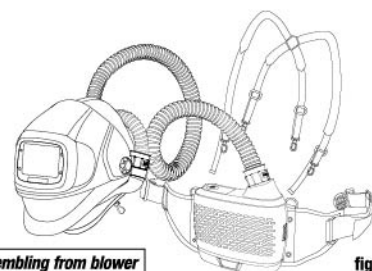
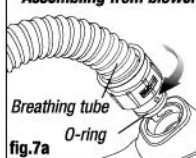

fig.6
fig.7a
- Always inspect the PAPR end of the breathing tube to confirm the rubber O-ring is in place, see fig.7a. Replace if missing or damaged.
Insert the two prongs on the breathing tube into the blower unit and helmet air duct (see fig.6), twist 1/4 to the anti-"open" direction (see fig.7a / 7c), then clip the breathing tube into holder on the back cover of the headgear to lock into place (see fig.8).